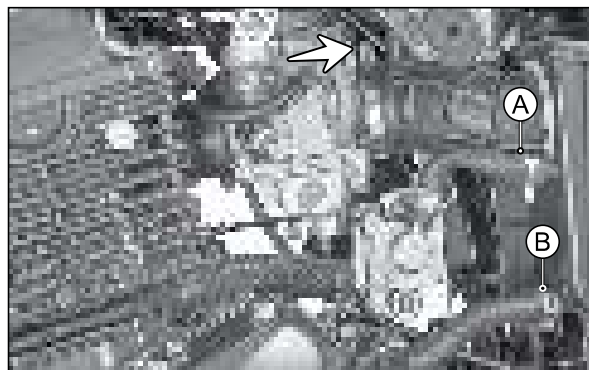

Fig. 6.138
- Loosen the clamp tube outlet screw and dislocate the tube outlet from the carburettor assembly. (Fig. 6.138)
- Remove hose clip (A) from hose air inlet and pull out the hose from air cleaner assembly. (Fig. 6.138)
- Remove hose clip (B) from hose engine breather and pull out the hose from air filter cleaner assembly. (Fig. 6.138)